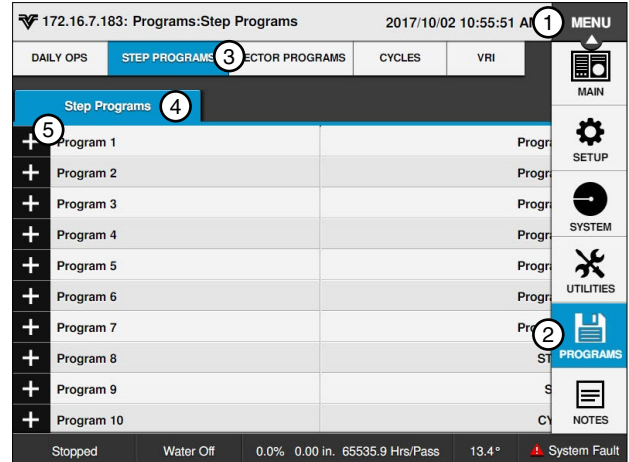

Figure 137-1 1. New Program
1. Push **Menu**, **Programs**, and **Step Programs** to view the Step Programs screen. Refer to Figure 137-1.